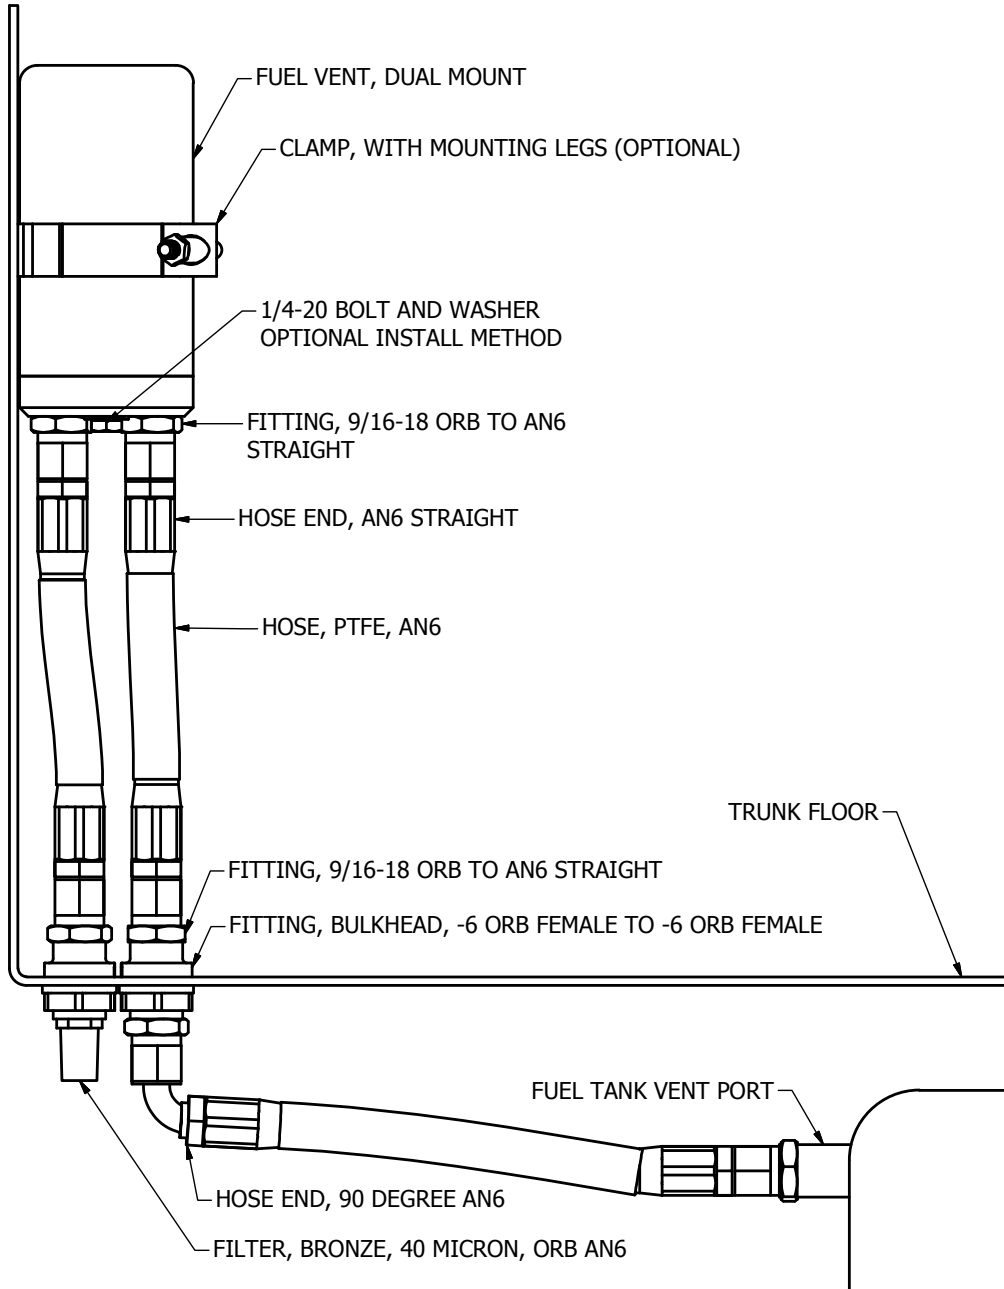

Figure 3
1. Figure 3 (below) is a typical when a VSR is mounted in the trunk of vehicle with a fuel tank located under the trunk floor. If the fuel tank vent port is inside the trunk, one bulkhead fitting is used to route outside of the vehicle. If the VSR is mounted outside of the vehicle, the filter can be threaded directly into the “FILTER” port on the VSR. VSR MUST BE MOUNTED VERTICALLY.